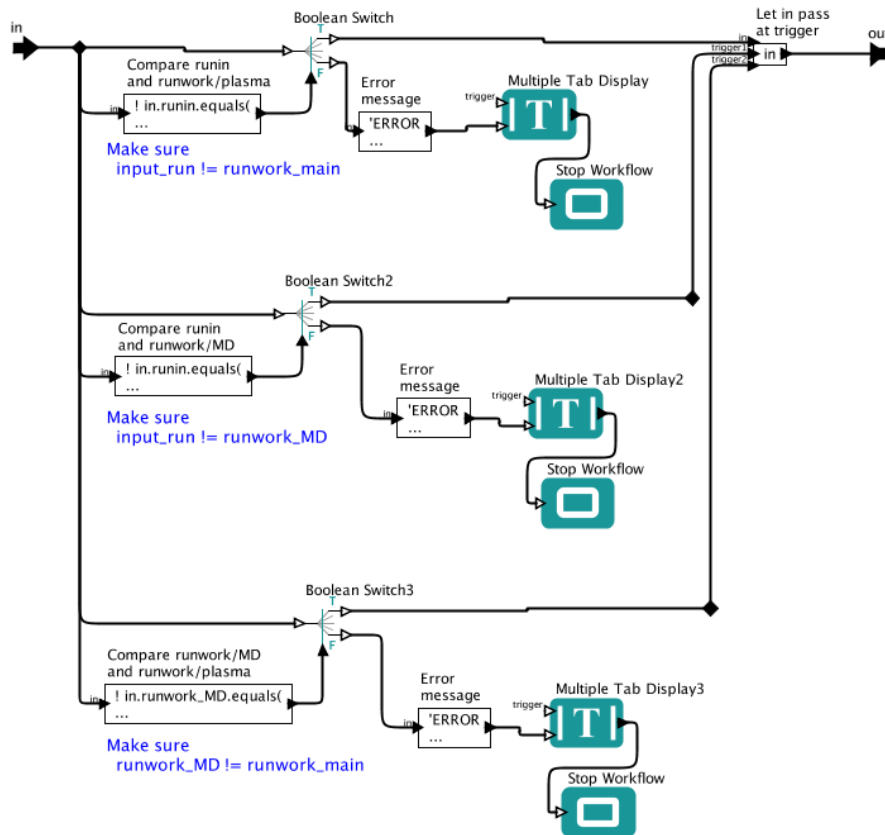

Figure 4. The `Validate_Input` composite actor, part of `UalGetCpoBundle`.
- The first of these actors is Validate_Input (see figure 4), which checks the three input run numbers to make sure they are all different.